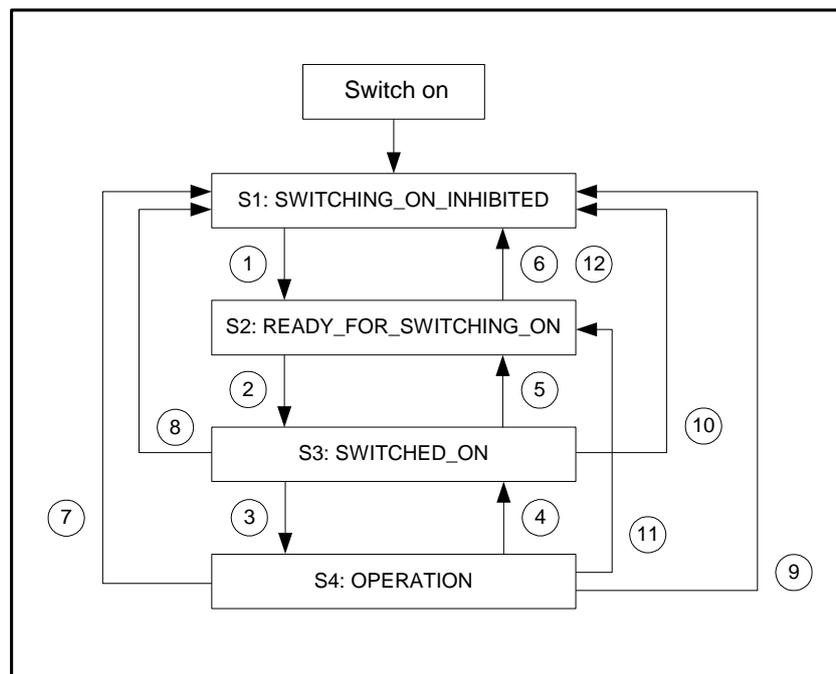

Figure 18: Simplified status diagram
The states have been taken over to a large extent from the PROFIdrive specification. PROFIdrive distinguishes between a ramp stop and a quick stop. The controller enabling is deactivated in both cases so that the simplified state diagram shown in *Figure 18* results.
- 3) According to the state diagram (*Figure 18*), state transitions 1, 2 and 3 have to be executed.